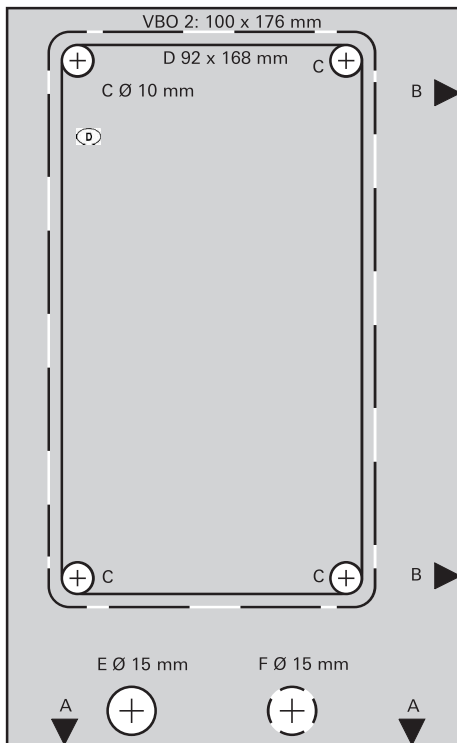

Fig. 5
- ▶ Position template for cowl opening (Fig. 5) on the inside of the wall.
- ▶ Drill 4 holes (Fig. 5-C) with 10 mm diameter through the wall.
- ▶ Drill hole (Fig. 5-E) with 15 mm diameter for condensation tube (also possible to drill from the outside at position F).
- ▶ Position template on the outside of the wall. The markings (Fig. 5-C) must be above the through-holes.
- ▶ Saw cut-out section for cowl (Fig. 5-D) 92 x 168 mm.